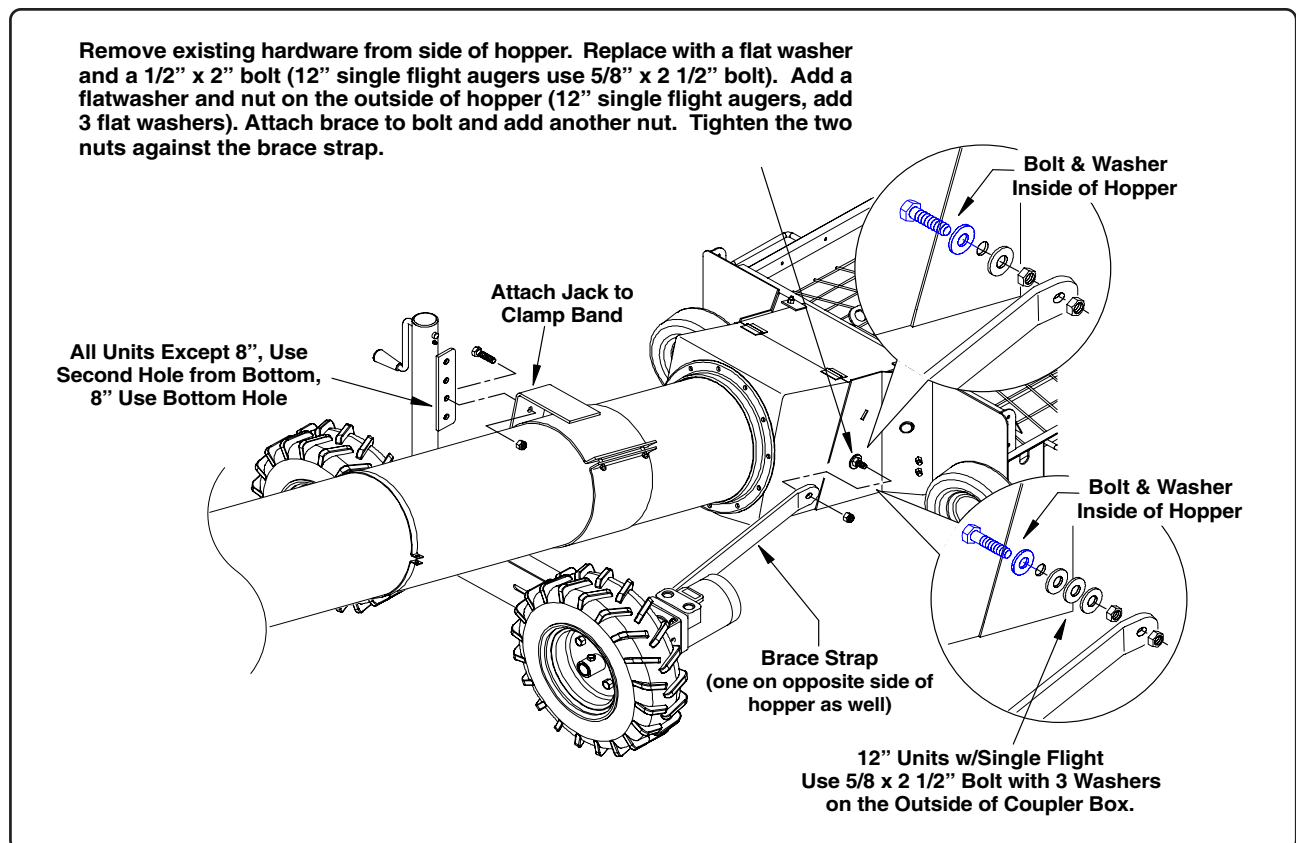

Fig. 5
17. Position the drive wheel assembly beneath the incline tube as shown in Fig. 5. Align the jack mounting plate with the clamp band and secure using one 1/2" x 1" bolt and lock nut (the jack mount plate has mounting holes at different heights, all units except 8" use the second hole from the bottom, 8" units will use the bottom hole). Don't tighten the clamp band at this time, you may need some movement when attaching the brace straps.